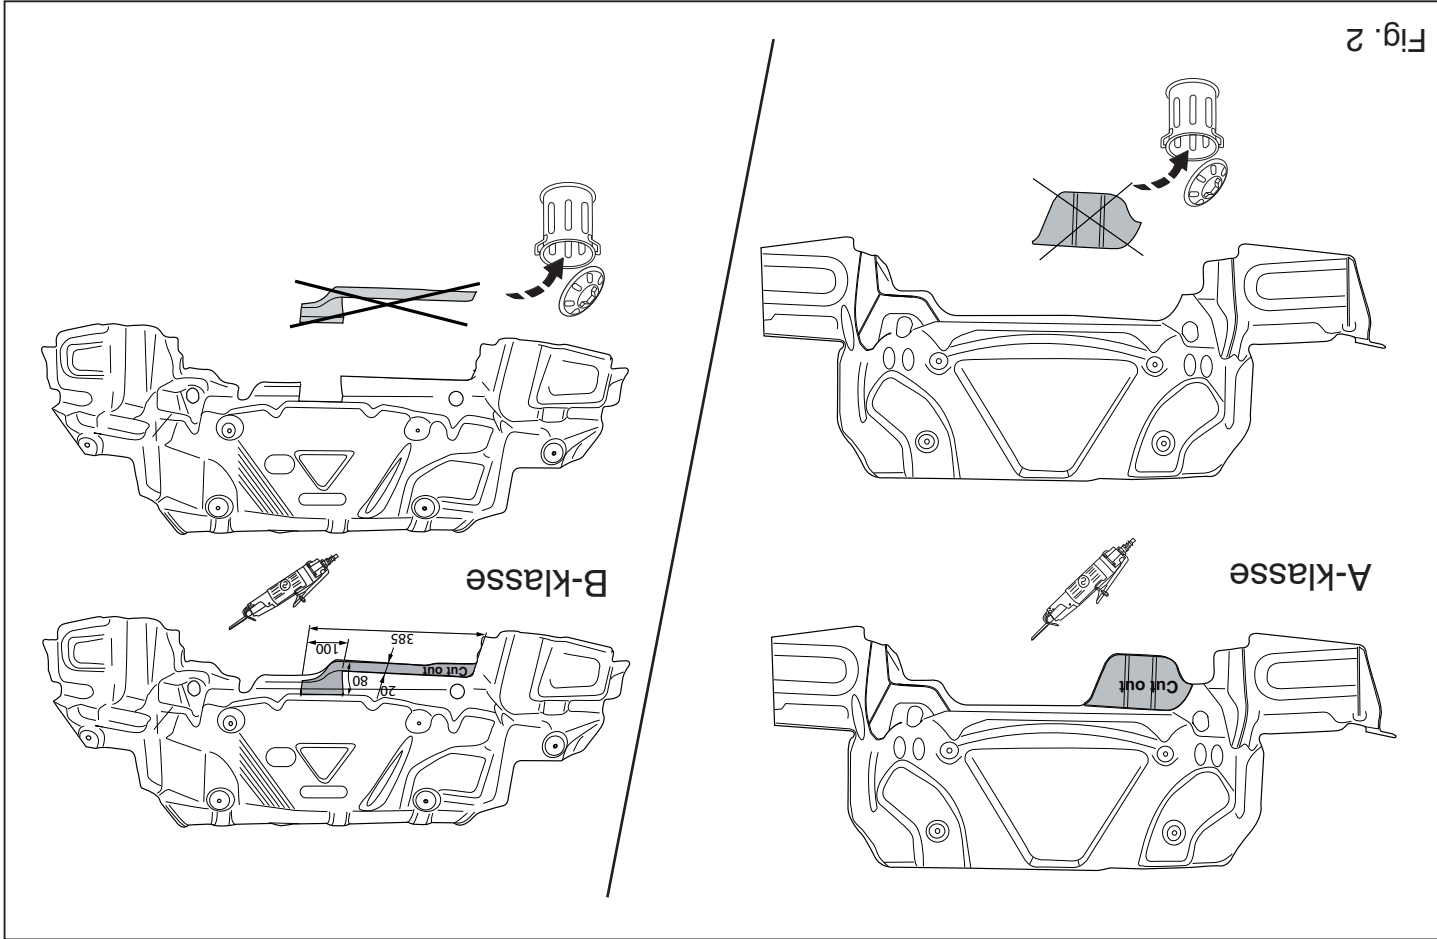

Fig. 2
8. Saw a portion out of the heat shield as shown in figure 2.